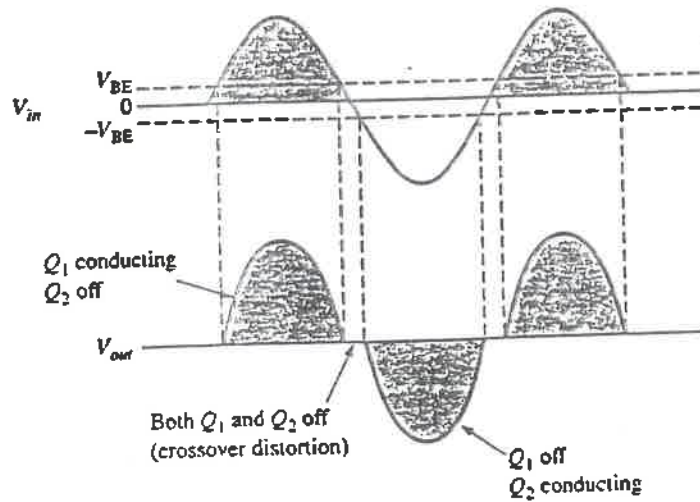

FIGURE 7-21
**Crossover Distortion** When the dc base voltage is zero, both transistors are off and the input signal voltage must exceed  $V_{BE}$  before a transistor conducts. Because of this, there is a time interval between the positive and negative alternations of the input when neither transistor is conducting, as shown in Figure 7-21. The resulting distortion in the output waveform is quite common and is called **crossover distortion**.